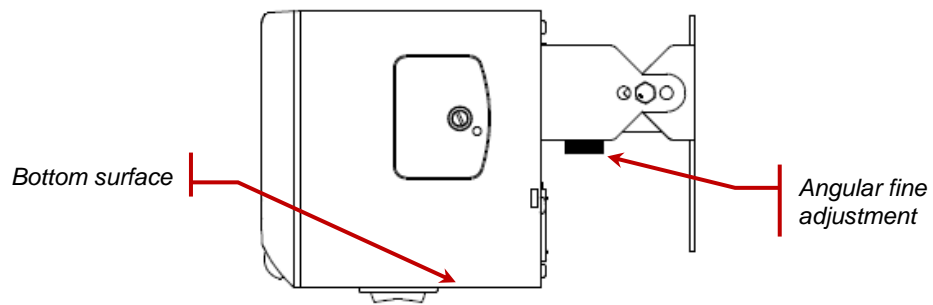

Figure 11 Kepri Side View with Bottom Approximately Parallel to the Floor
2. Adjust the module so the bottom of the device is approximately parallel with the floor. Refer to Figure 11.
5. Adjust the angle of the Kepri module until the Tilt indicator is green. This may require you to loosen the side screws; but do not remove the screws. The target range is 1° - 5°; use the fine adjustment screw if necessary. Refer to Figure 11.